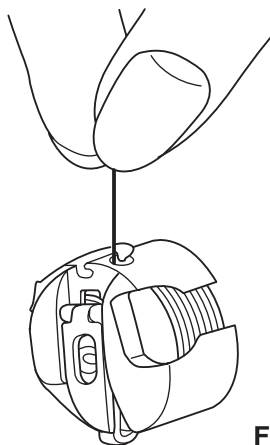

Fig. 44
- With a sharp upward movement of the hand, the thread must run off gradually (fig. 44).